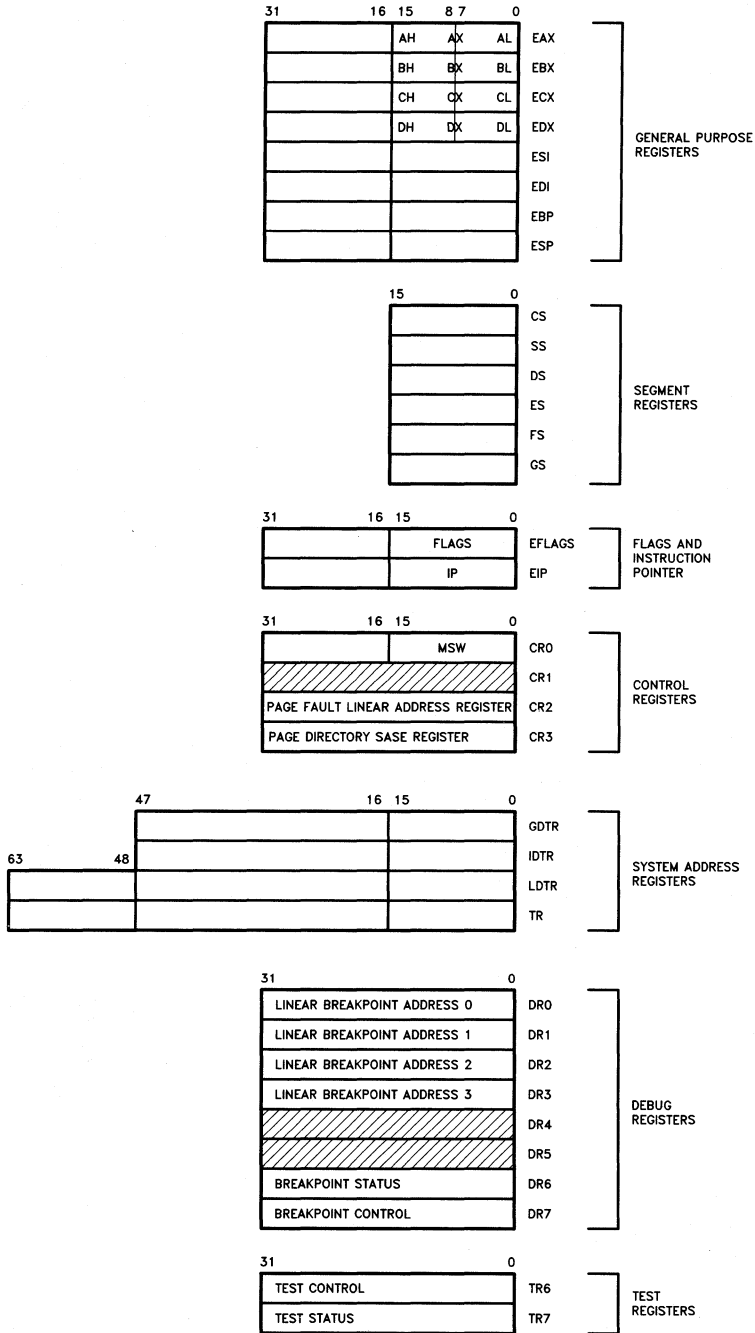

Figure 2.1. 80386SX Base Architecture Registers
The 80386SX has thirty-four registers as shown in Figure 2-1. These registers are grouped into the following seven categories:
**Flags and Instruction Pointer Registers:** The two 32-bit special purpose registers in figure 2.1 record or control certain aspects of the 80386SX processor state. The EFLAGS register includes status and control bits that are used to reflect the outcome of many instructions and modify the semantics of some instructions. The Instruction Pointer, called EIP, is 32 bits wide. The Instruction Pointer controls instruction fetching and the processor automatically increments it after executing an instruction.
The 80386SX has three control registers of 32 bits, CR0, CR2 and CR3, to hold the machine state of a global nature. These registers are shown in figures 2.1 and 2.2. The defined CR0 bits are described in table 2.2.